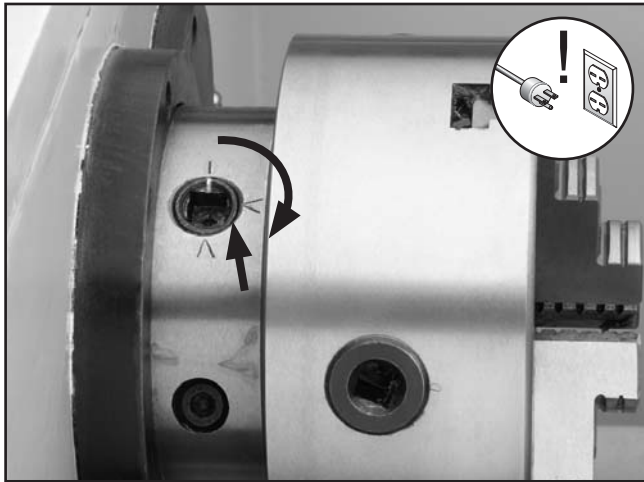

Figure 24. Tightening the cam-locks.
- Lift the chuck, and insert the studs onto the spindle nose (see **Figure 24**). While supporting the weight of the chuck/faceplate, turn one cam with the chuck key until the cam line is between the two V's on the spindle. Do not fully tighten at this time.